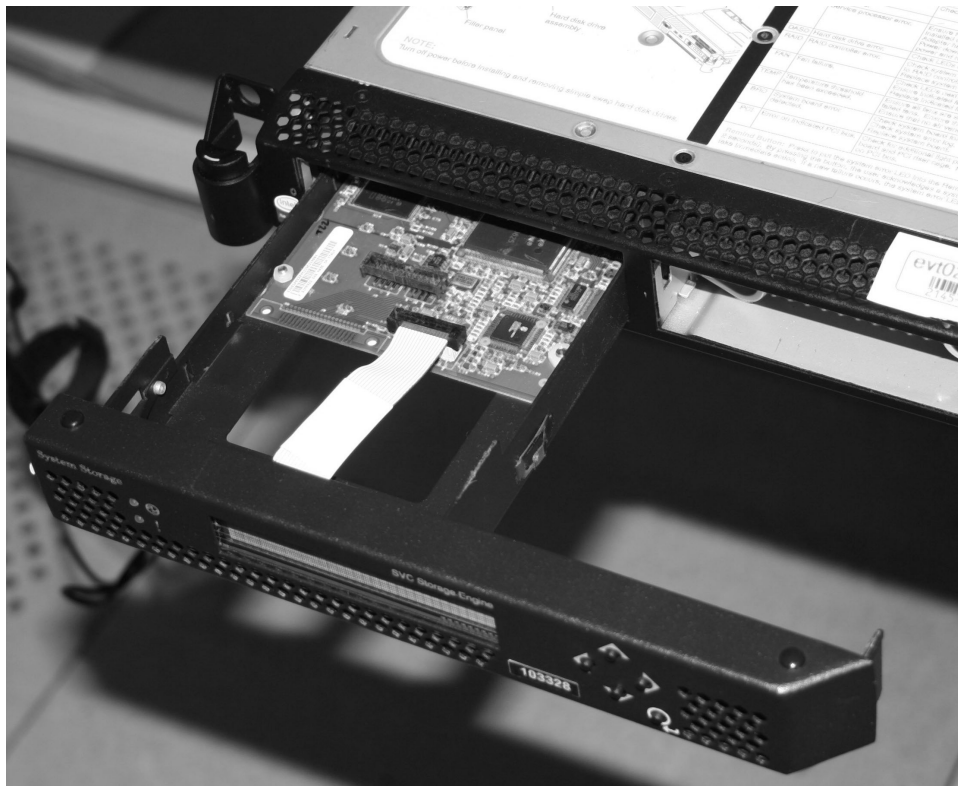

Figure 81. Removing the service controller from the SAN Volume Controller 2145-8G4
6. You can stop pressing the release button and pull the service controller fully out of the frame, as shown in Figure 81